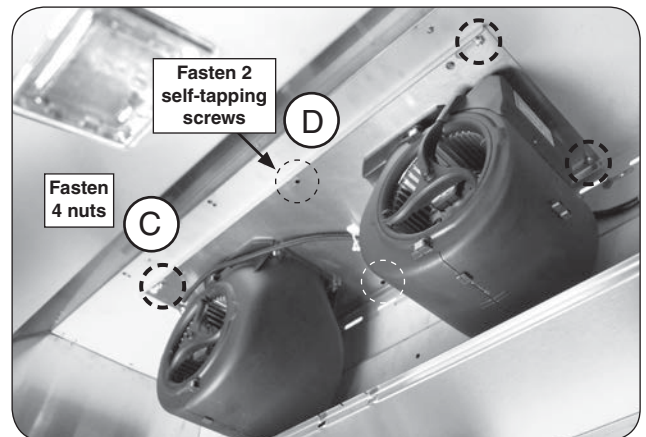

Fig. 17-3 Fasten nuts and screws to secure
4. Fasten the (4) nuts to secure the fan assembly in place. Then fasten two self-tapping screws (provided) into the two center holes for additional support. See Fig. 17-3, C and D.